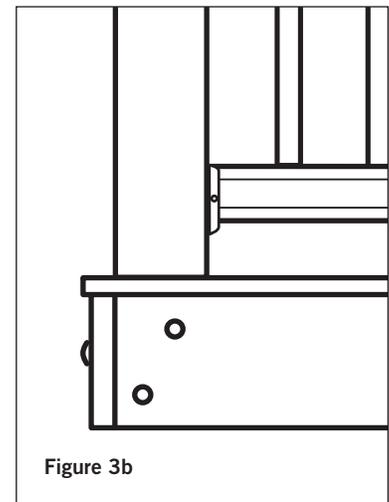

Figure 3b
Step 3 Position, plumb with a level, and clamp the rail post on the interior face of the joist. Plumb again. The 4x4 railing post should be bolted to the inside of the joists using two 1/2"x6" galvanized carriage bolts. Corner posts use a third carriage bolt inserted through the adjacent joist (**Figure 3b**).
Step 2 Position, plumb with a level, and clamp the rail post on the interior face of the stair stringer. Plumb again. The 4x4 railing post should be bolted to the inside of the stair stringer using two 1/2" x 6" galvanized carriage bolts. Corner posts use a third carriage bolt inserted through the adjacent joist (refer to **Figure 3b**). Ground level posts should be set in concrete.